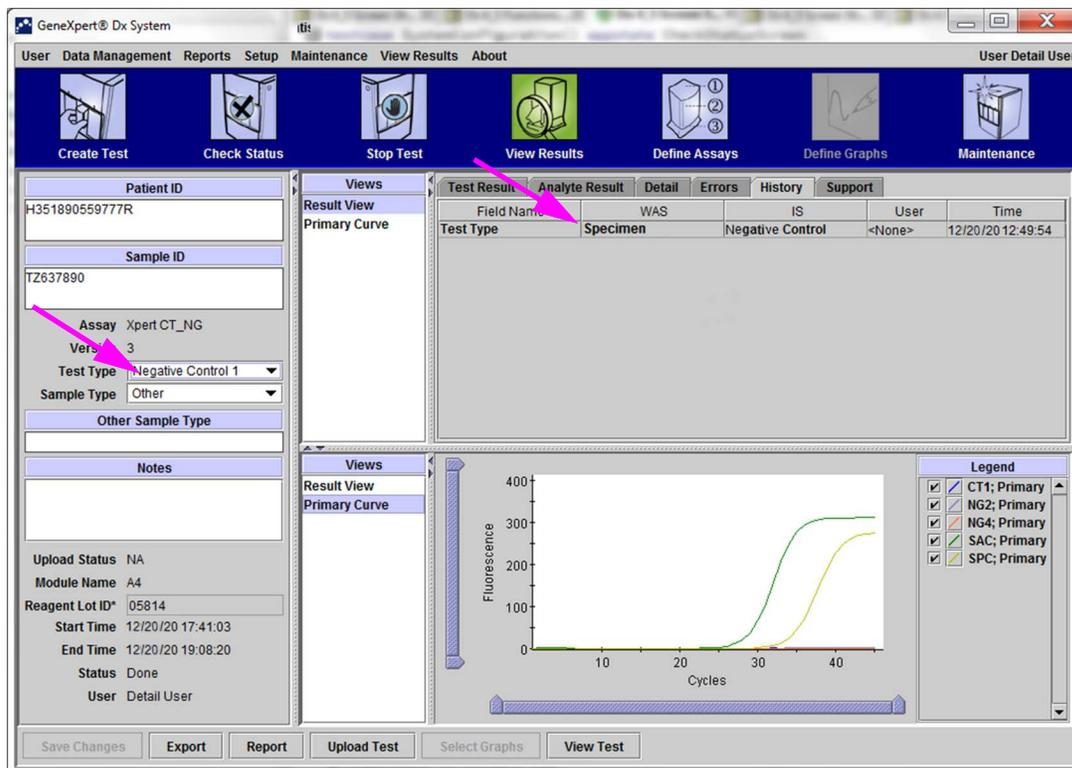

Figure 5-52. History Tab showing Change from Specimen to Negative Control Test Type
- Click **Yes** to save the changes and proceed. The software tracks the change history (see Figure 5-52).